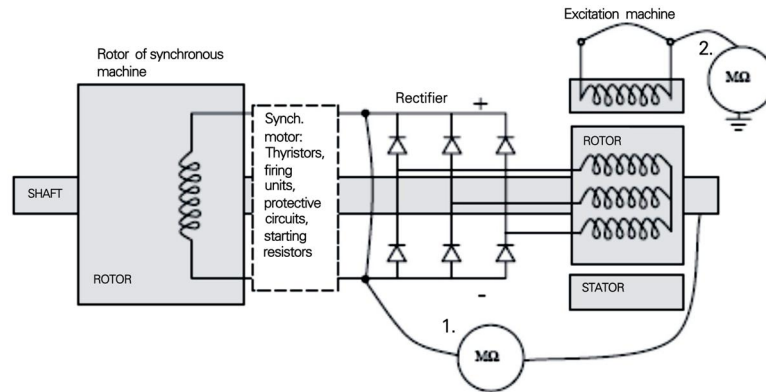

Figure 7-5. Connections for insulation resistance measurements.
- Connect the insulation resistance meter between the rotor windings and the shaft of the rotors as shown in *Figure 7-5. Connections for insulation resistance measurements*. The measurement current must not go through the bearings.
- Connect the insulation resistance meter between the stator winding and the frame of the machine as shown in *Figure 7-5. Connections for insulation resistance measurements*.